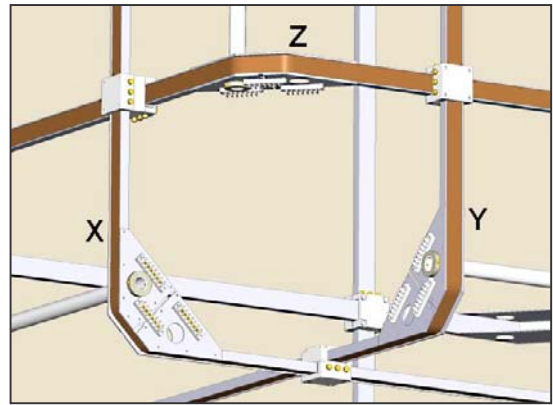

Fig. 4: Location of terminal blocks.
**Note 2:** The coil-forms in aluminium alloy are not closed square frames, but these have a purposely gap near the connecting terminal block of the coil. Electrical wires are soldered to both sides of the gap and are connected to the terminal block also, in order to use the coil-form as a one-turn coil when wanted. We call this exclusive technical concept "In-circuit coil-forms". So, the two forms on each axis make an extra Helmholtz pair of one turn per coil, what is usually named with the prefix "s". For instance: for the X-axis, the aluminium forms make the pair Xs. See Fig. 4 for an electrical schematic including the coil-forms.
**Note 3:** The bifilar winding provides two identical windings on each coil, which can be used as two independent coils to get two identical Helmholtz pairs on each axis. For instance, for the X-axis we have the circuits X1 and X2 on each coil-form, which can be used to make the pairs X1 and X2. The Fig. 4 depicts the electrical diagram for the X-axis.
Every coil-set is delivered with these two pairs on each axis converted in only one by means of a couple of jumpers. In other words, the two identical circuits are in parallel wired (see Fig. 4). In this way the system can be operated at the larger currents and the lower possible voltages. Just cutting the jumpers can easily separate the two circuits on each axis, to use these in different configurations as needed.
All the terminal blocks, with M4 brass screws, can be grouped in one corner of the coil-set, as can be seen in Fig. 4.